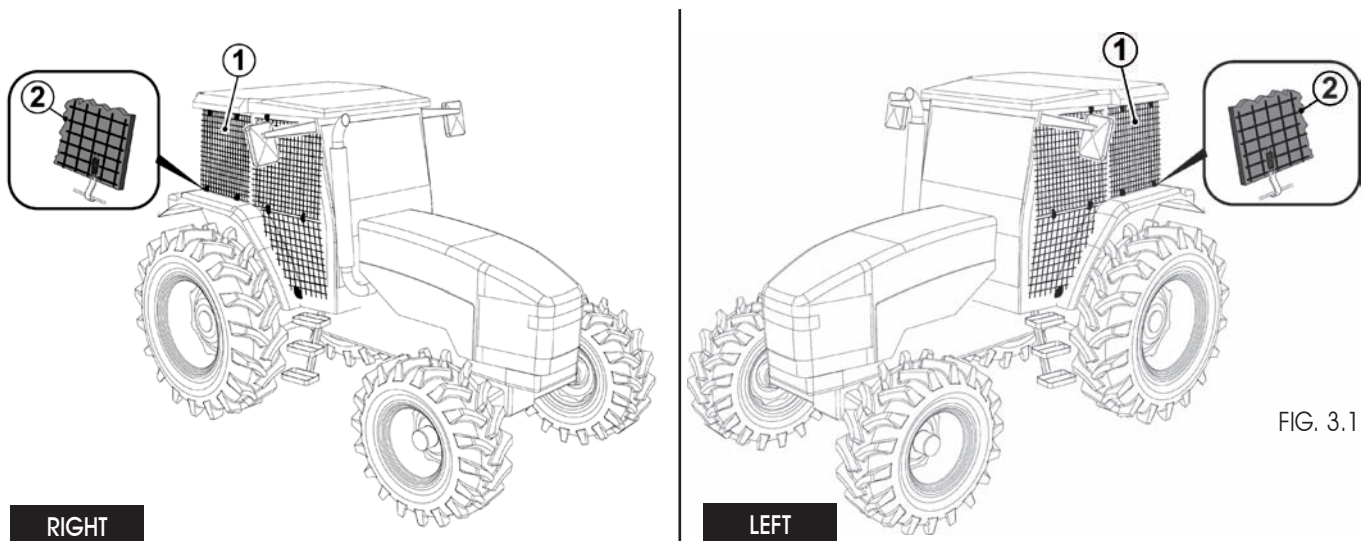

FIG. 3.1
- In order to protect the operator from possible flying debris, stones or other materials, it is recommended to fit two protection grills (1) to the operator's cab (working side), so that the debris thrown by the end tool cannot reach the glass of the cab and break it, causing injuries to the operator (FIG. 3.1).
- It is recommended to fit 1/4 inch sheets of polycarbonate (2) or, as an alternative, a single steel bar 3/8 inch thick under the protection grills (1). They will prevent small stones and fragments from hitting the glass of the cab (FIG. 3.1).